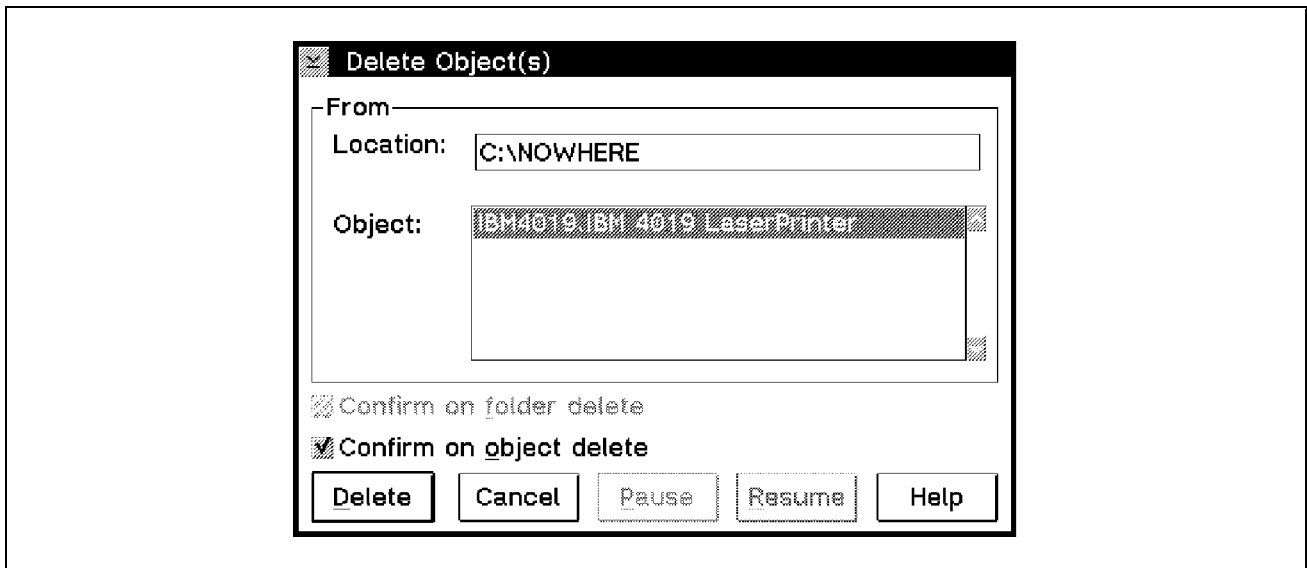

Figure 33. The Delete Object Confirmation Window
- Select **Delete**. The Delete Object Confirmation window appears as seen in Figure 33 on page 103.